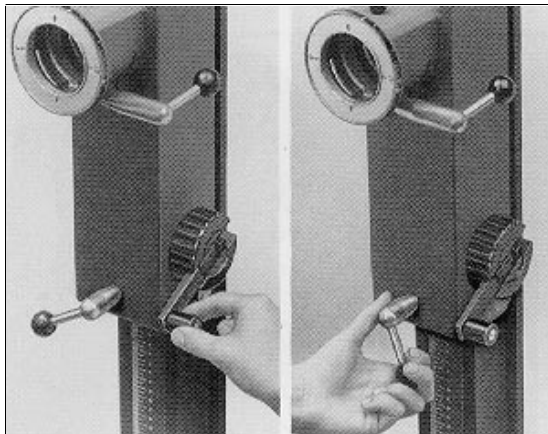

Figure 2-13. Lowering and Locking Vertical Carriage
e. Wind vertical carriage down the column until it is at an easily accessible height (figure 2-13), then lock it in position.